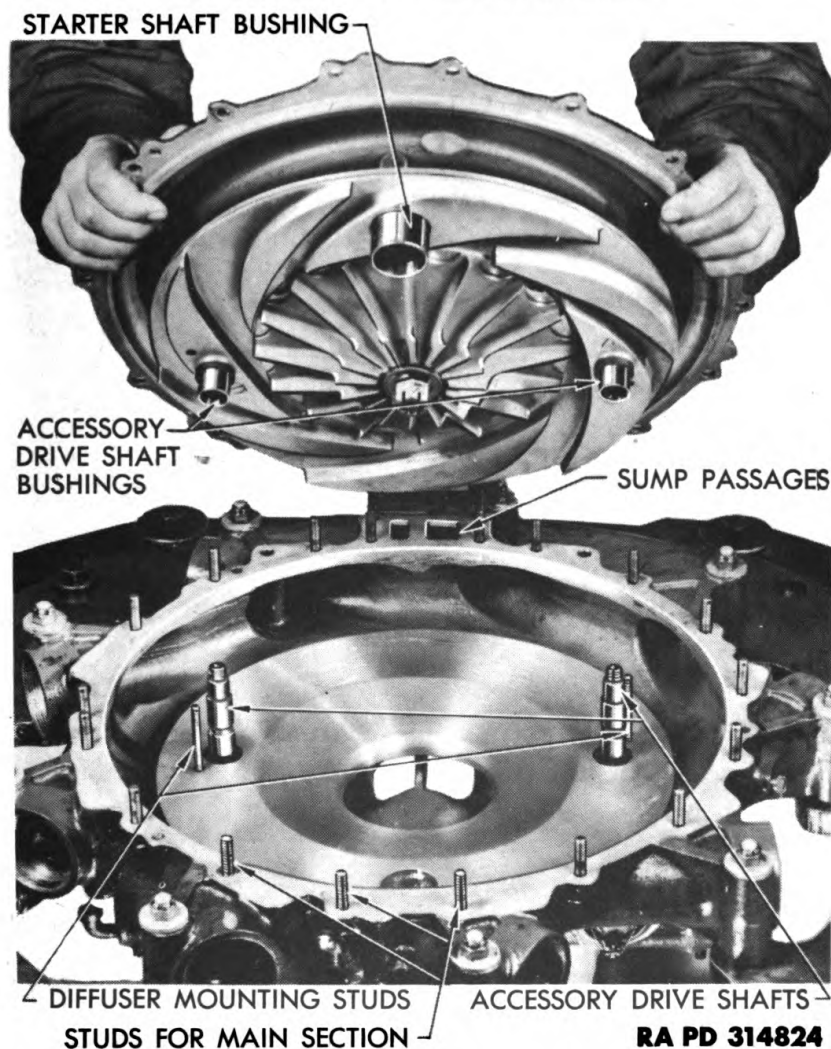

Figure 202 – Installing Diffuser Section on Rear Crankcase Section
j. **Install Diffuser Section.** Coat matching flanges of rear and diffuser crankcase sections with sealing compound. Spread compound very thin. Position diffuser section on rear crankcase section studs (fig. 202). Align the section by noting the position of the sump drain openings. Tap the diffuser section with soft hammer to make sure that pilot on diffuser section enters the matching flange in the rear crankcase section. Install two diffuser section retaining nuts on studs. Tighten nuts to *not more than* 80 inch-pounds of torque. Install cotter pins through studs and nuts, and secure the cotter pins.